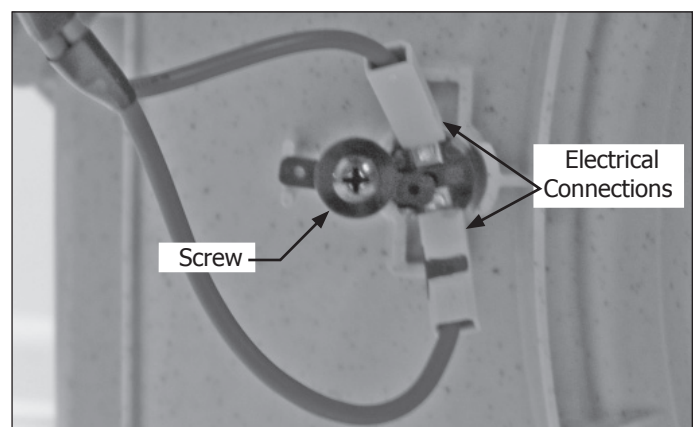

Figure 4-32.
5. Disconnect wire harness leads from resetting thermostat. (See Figure 4-32)